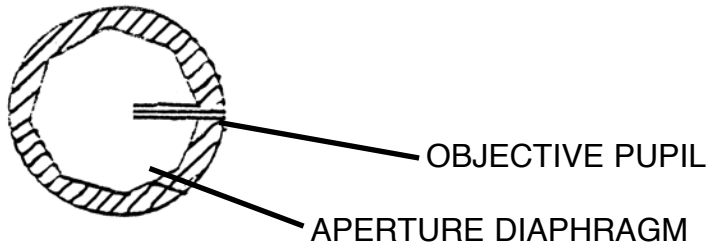
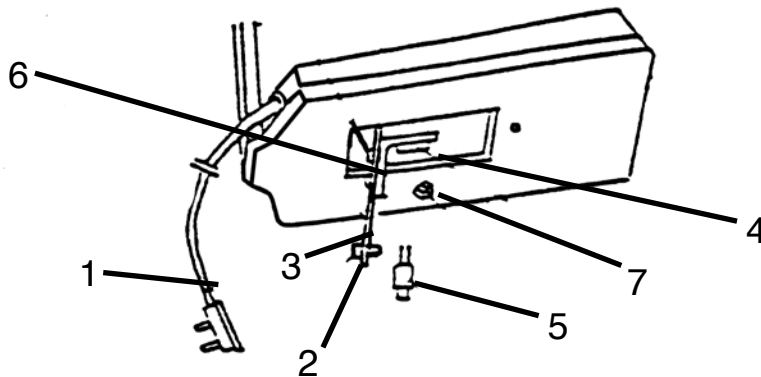

Fig. 11
Fig. 14
- (1) Pull out the plug of power electrical wire [1] and disconnect the power supply.
- (2) Incline microscope, loosen screw [2] of fixing lamp base board [3] on middle part of bottom, and remove lamp base board from bottom.
- (3) Pull out the old lamp from lamp base [4].
- (4) Insert new lamp [5] into lamp base properly, as shown in Fig. 11 direction, make it touch better.
- (5) Clean the new lamp with absoluted alcohol.
- (6) Refix lamp base board on bottom with screw [2].
- (7) Mount the lamp well. Plug in power source. Turn 4x objective lens into path. Adjust condenser upwards and downwards and make light enter view of field. If light spot is offset the center of view, loose screw [6] slightly and move lamp base [4]. Make lamp spot into center, then tighten up the screw [6] to use immediately. (shown in Fig. 14)